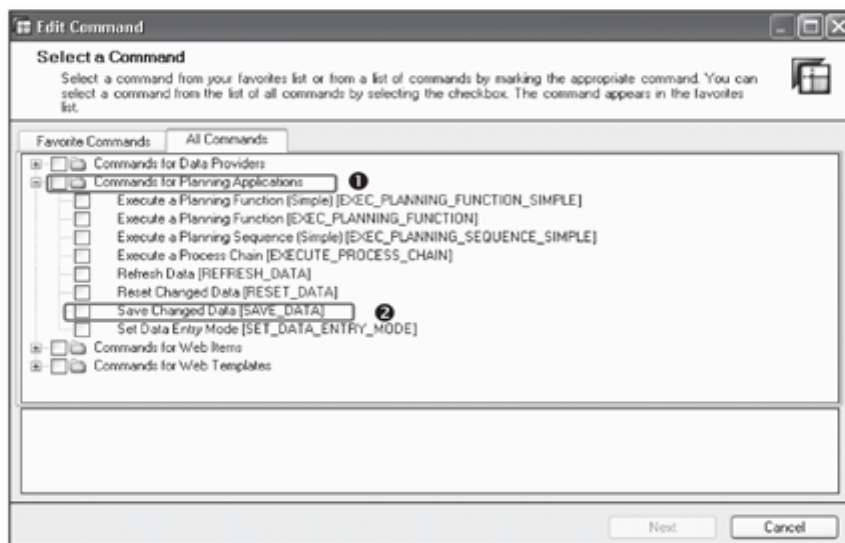

Figure 12.95 Planning Commands
9. You will see a list of all of the available commands in the Command Wizard under the All Commands tab (Figure 12.95).
All of the planning-related commands are grouped under the folder titled Commands for Planning Applications (❶ of Figure 12.95). These commands are explained here:
For our example scenario, select the command Save Changed Data (SAVE_DATA) (❷ of Figure 12.95), and then click on the NEXT button.